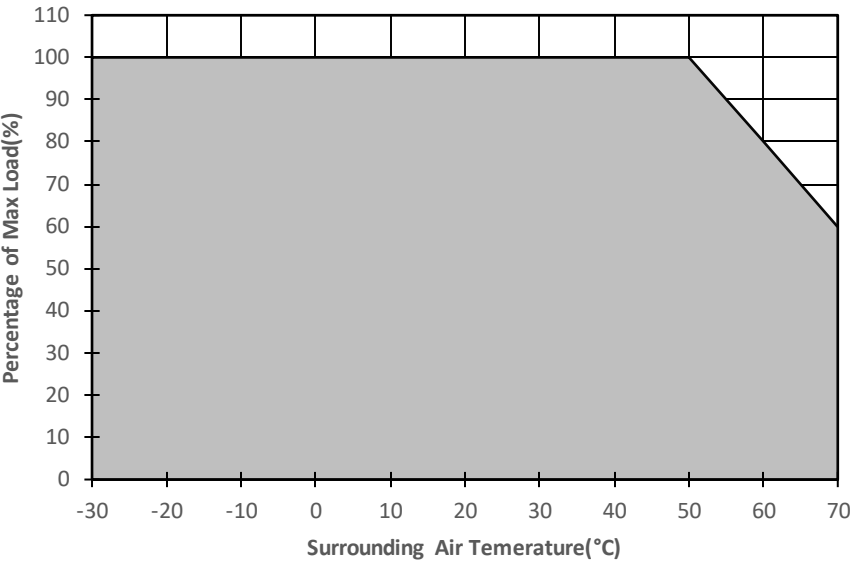
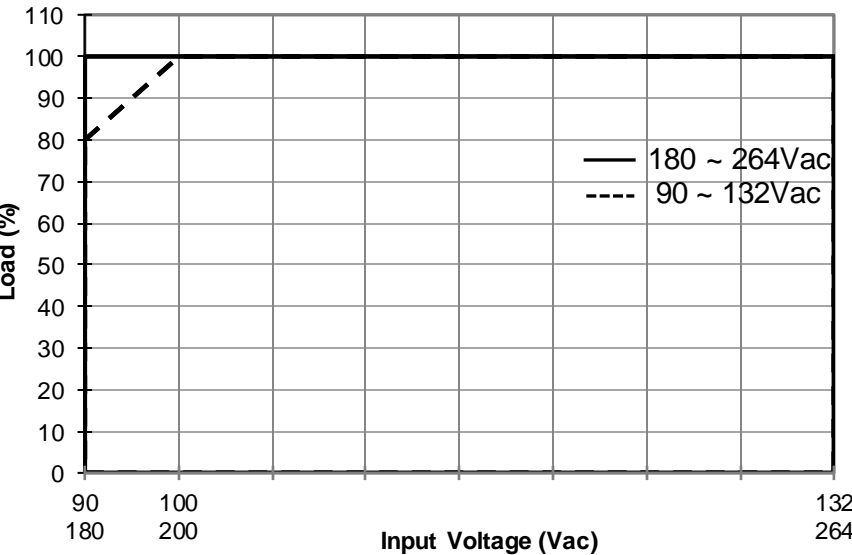

Fig. 1 De-rating for Horizontal Mounting Orientation
Fig. 2 De-rating for AC Input Voltage
- 1. Power supply components may degrade, or be damaged, when the power supply is continuously used outside the shaded region, refer to the graph shown in Fig. 1 & Fig.2.